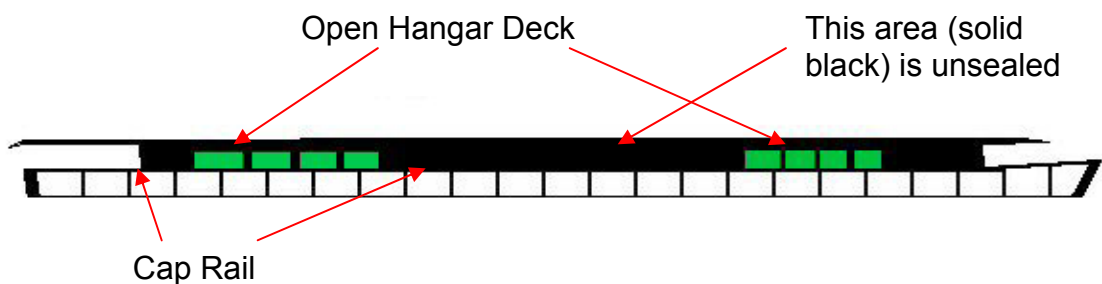

Figure 6
1.11.2.5. All areas of an aircraft carrier above the hangar deck are considered superstructure and must be unsealed, with all access doors, elevators, etc open, as per Figure 6.